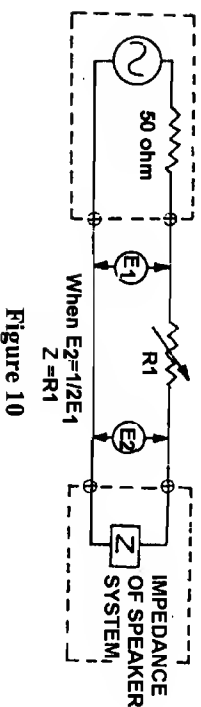

Figure 10
- (1) Connect the setup as figure 10, where  $R_1$  is the potentiometer to find out the impedance of DUT.  $E_1$  and  $E_2$  are voltmeters used to monitor the voltages of the source and the DUT.